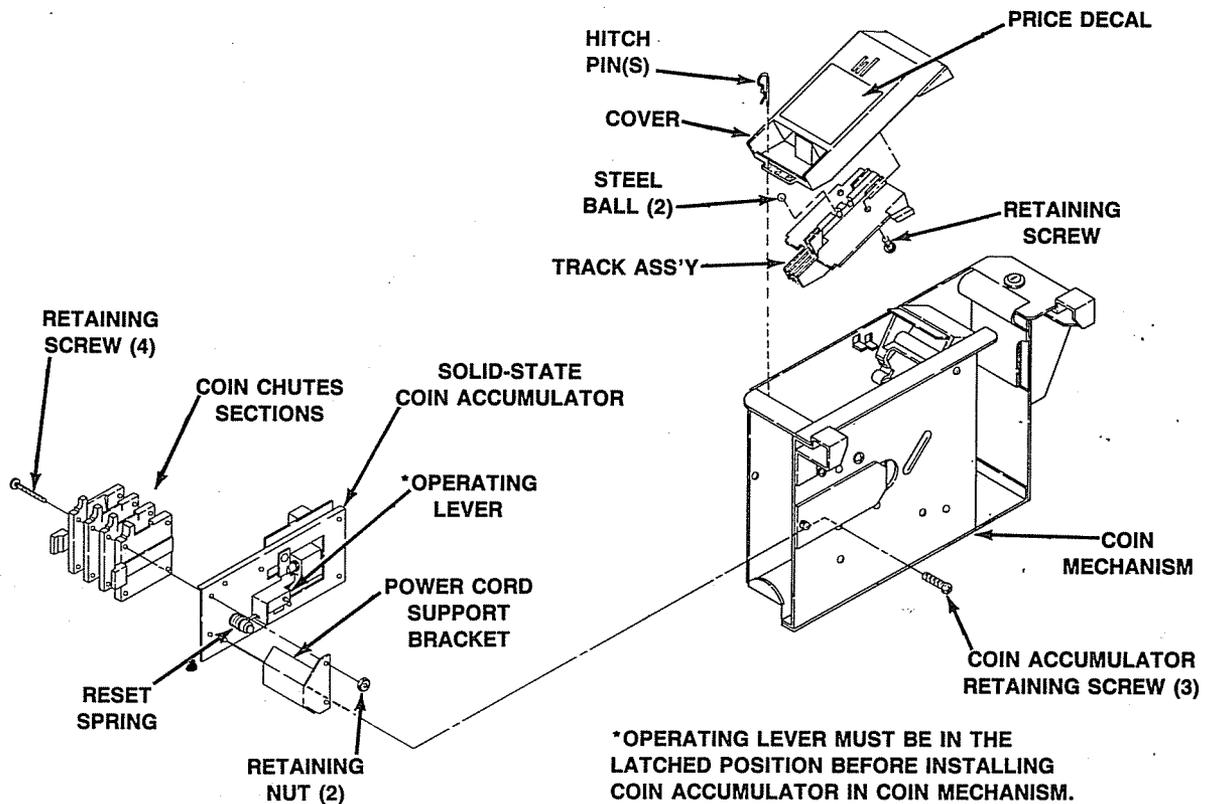

FIGURE 6. SOLID-STATE COIN MECHANISM PARTS IDENTIFICATION
COVER AND TRACK ASSEMBLY (see Figure 6)
COIN ACCUMULATOR (see Figure 6)
5) Install coin accumulator in coin mechanism by reversing removal procedure. **MAKE SURE WHEN ACCUMULATOR IS INSTALLED, OPERATING LEVER ON ITS SIDE (SEE FIGURE 6), IS IN LATCHED POSITION AND RESET SPRING IS AHEAD OF RESET ROLLER INSIDE COIN MECHANISM.**
(see Figure 6)
NOTE: Coins hanging up are usually caused by dirt and/or metallic material from coins causing steel balls in track assembly (see Figure 6) to stick not allowing coins to be accepted or rejected. Proceed as follows to correct problem.